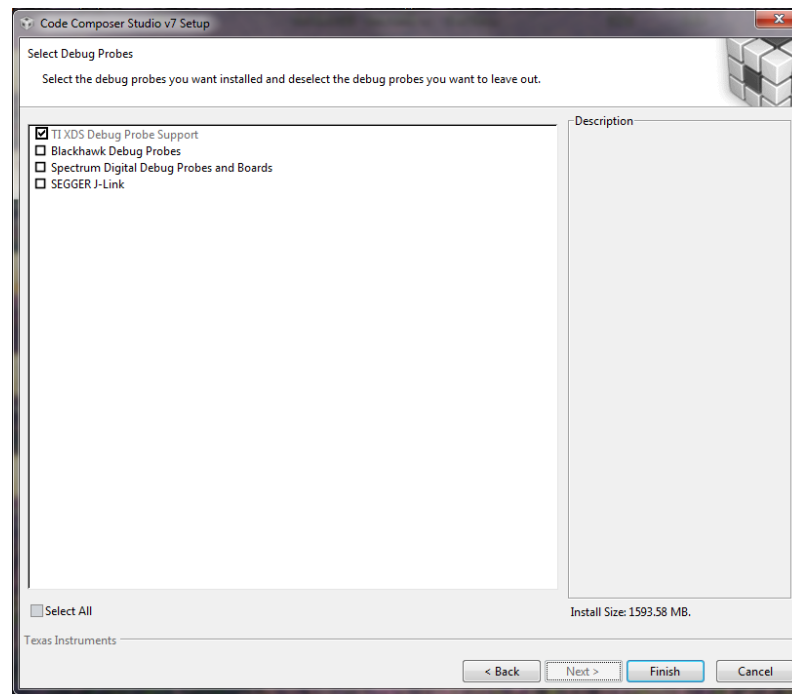

Figure 68 CCS debug probe selection
- We are using **XDS100v2 debug probe**. Therefore, we will choose **XDS** under **debug probes**, as shown in Figure 68 and hit next. If you are using a different